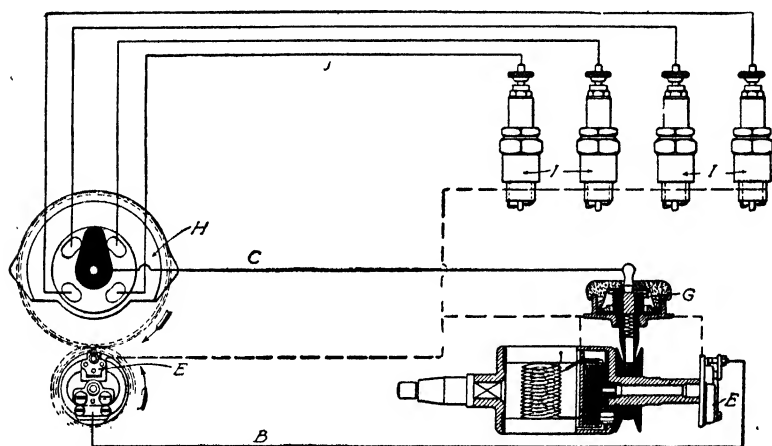

Fig. 66. Wiring Diagram of High-Tension Magneto System
*Typical High-Tension Magneto Circuit.* Fig. 66 is the wiring diagram for a high-tension system, using a true high-tension type magneto. *C* and *B* are the wires of the primary circuit, in which circuit there are also included, besides the current-generating coils of the armature, an induction coil built into the magneto, for raising the current tension, and a contact breaker *E*, which is carried on the same revolving spindle that bears the armature. The dotted lines indicate the ground return.